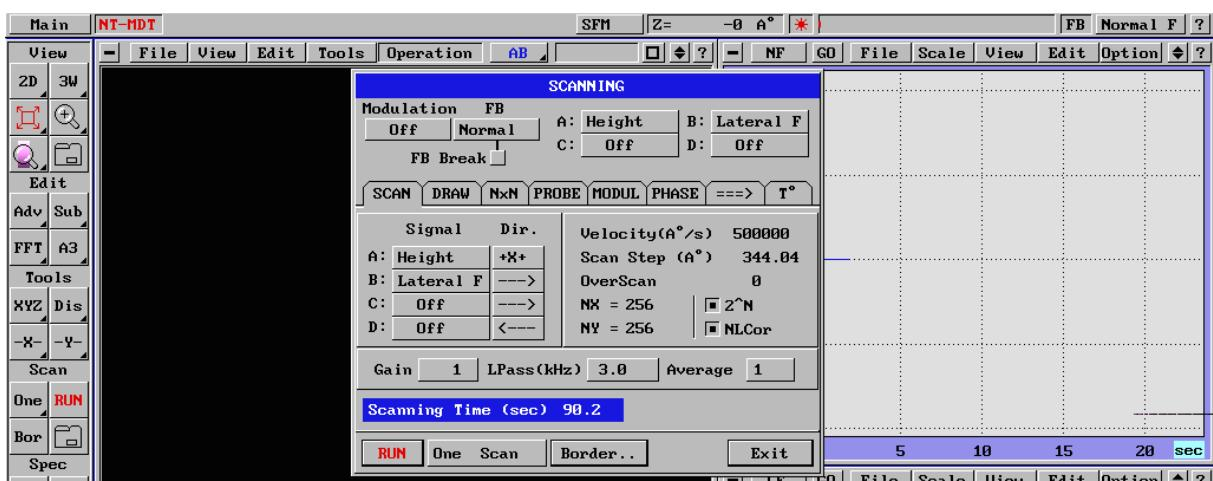

Fig. 172
Velocity - 500000 Å/ñåé (Fig. 172)
NX xNY - 256 ñ 256⁵ (Fig. 172)
Step (A) - max⁶ (Fig. 172)
NL Corr - on (Fig. 172)
Scan dir - +X+ (Fig. 172)
Gain = 1 (Fig. 172)
Lpass(kHz)=3 (Fig. 172)
Average = 1 (Fig. 172)